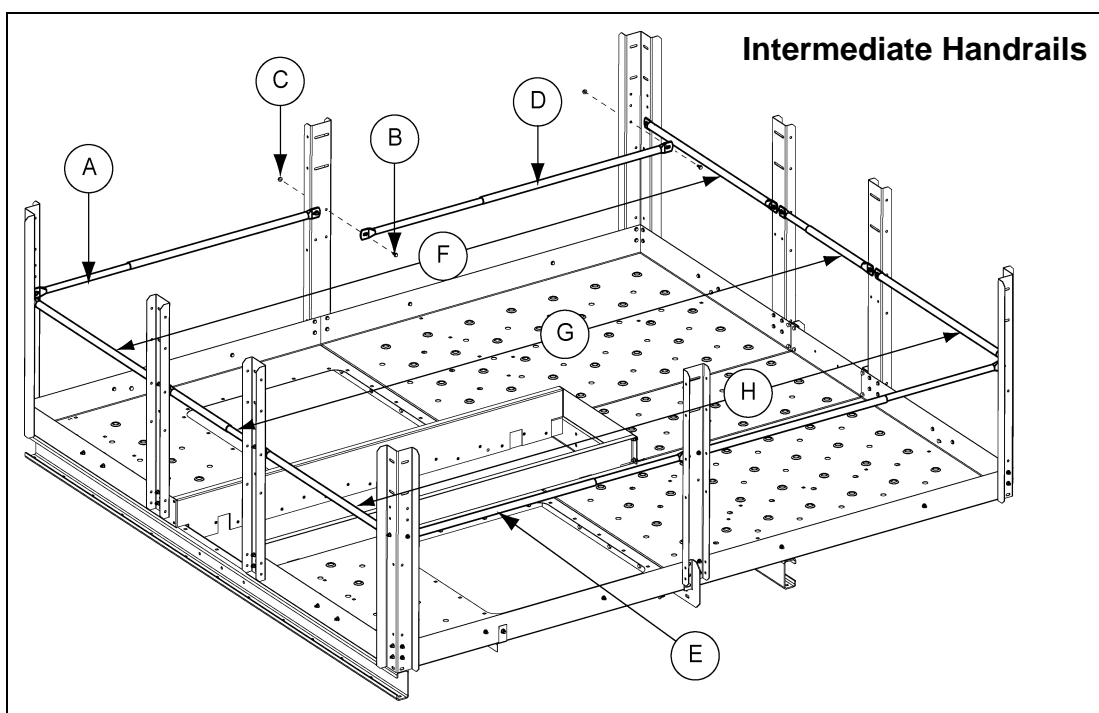

Figure 8R Intermediate Handrails
NOTE: The small intermediate handrail (LDR-4088) fits inside of the large intermediate handrail. It is critical that large and small rails be properly identified in advance. Rails are cut to size and cutting the wrong rail or to the wrong length will prevent proper installation. (See Figure 8R.)
- b. Insert one small rail inside of one large rail and telescope the joined rails from the "W" corner post to the platform post as shown in *Figure 8R on Page 65*.
- b. Insert one small rail inside of one large rail telescope the joined rails from the "W" corner posts to platform posts as shown in *Figure 8R on Page 65*.